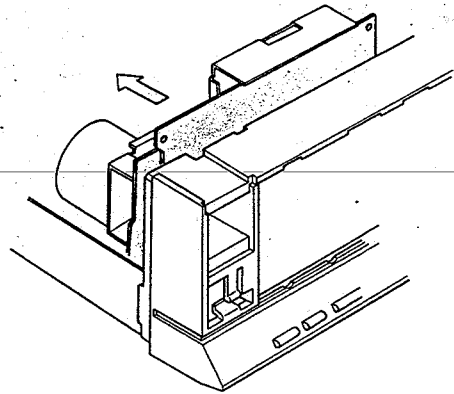

Fig. 14
4) Remove the mechanism while sliding it in the direction of the arrow. (See figure 14)